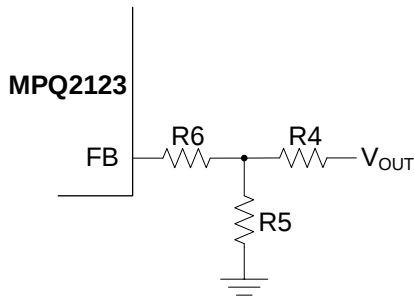

Figure 3: T-Type Feedback Network
The external resistor divider connected to FB sets V_{OUT} (see Figure 3). The feedback resistor (R_4) must account for both stability and dynamic response, so it cannot be too large or too small. R_4 is about 100k Ω . R_5 can be calculated with Equation (2):
It is highly recommended to use a T-type feedback network (see Figure 3).